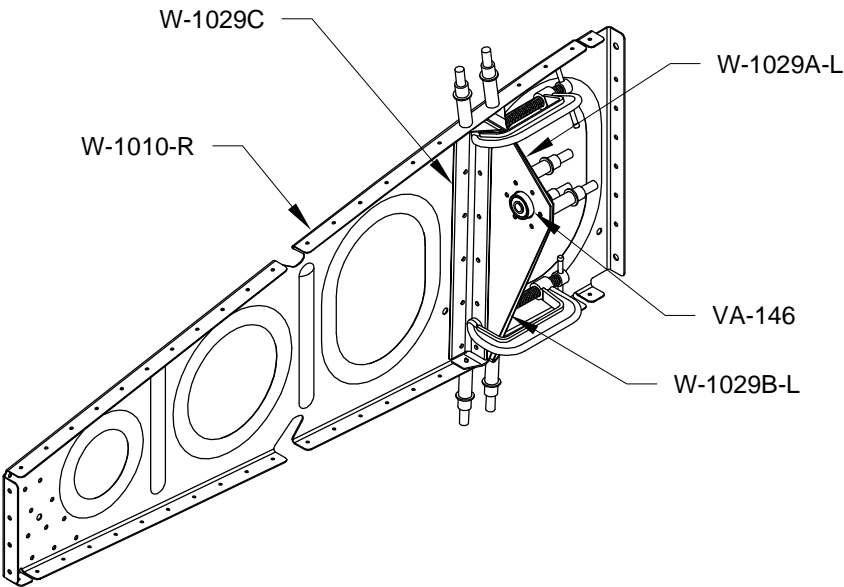

FIGURE 5: MATCH-DRILLING W-1029C ANGLE
Step 6: Cleco the VA-146 Flange Bearing in-between the W-1029A-L and W-1029B-L Torque Tube Support Brackets. Cleco the assembly to the upper and lower flanges of the W-1010-R Inboard Wing Rib as shown in Figure 5. (The support brackets cleco into the fourth and fifth holes back from the front of the main flange not counting the tab.) Clamp the W-1029C Angle flush against the aft face of the W-1029B-L Torque Tube Support Bracket and the inboard face of the inboard wing rib.